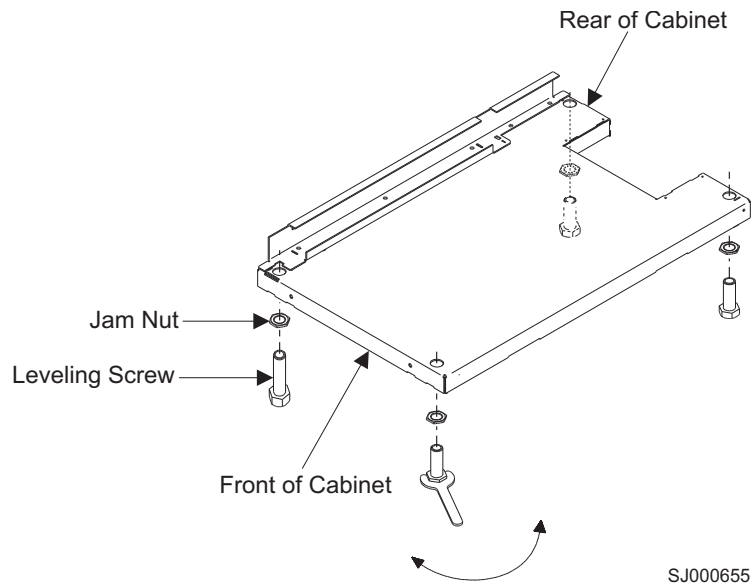

Figure 80. Adjusting the leveling feet
1. Loosen the jam nut on each leveling foot by turning the nut counterclockwise, away from the bottom of the rack. See Figure 80 on page 209.